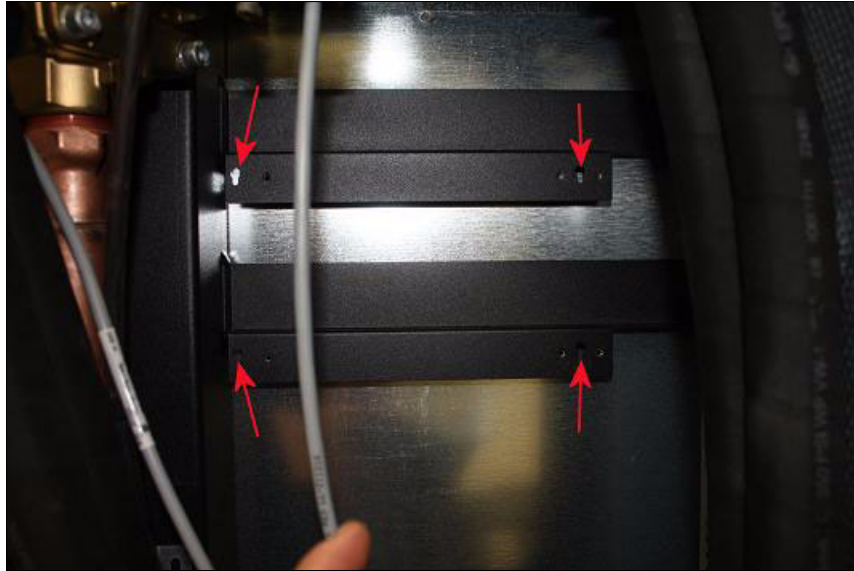

Figure 4-40 Coolant monitor mounting bracket
13. The coolant monitor is installed on a mounting plate in the rack, which has four keyhole slots. Studs on the back of the coolant monitor mounting bracket engage these keyhole slots. When it is in position in the machine, the monitor is secured to the frame with two thumbscrews (see the red arrows in Figure 4-39 on page 108). Loosen the thumbscrews and slide the coolant monitor up, then move away from the frame (to clear the mounting studs from the keyholes) and then out of the machine. See Figure 4-40 on page 109.
18. You cannot see the studs in the rack (see Figure 4-40 on page 109). To align the studs and the slots in the new coolant monitor, hold the top of the monitor higher than the top slots. Slide it toward you (that is, toward the back of the machine) until the monitor bracket touches the frame member. Slide the monitor slowly down and feel for the studs to align